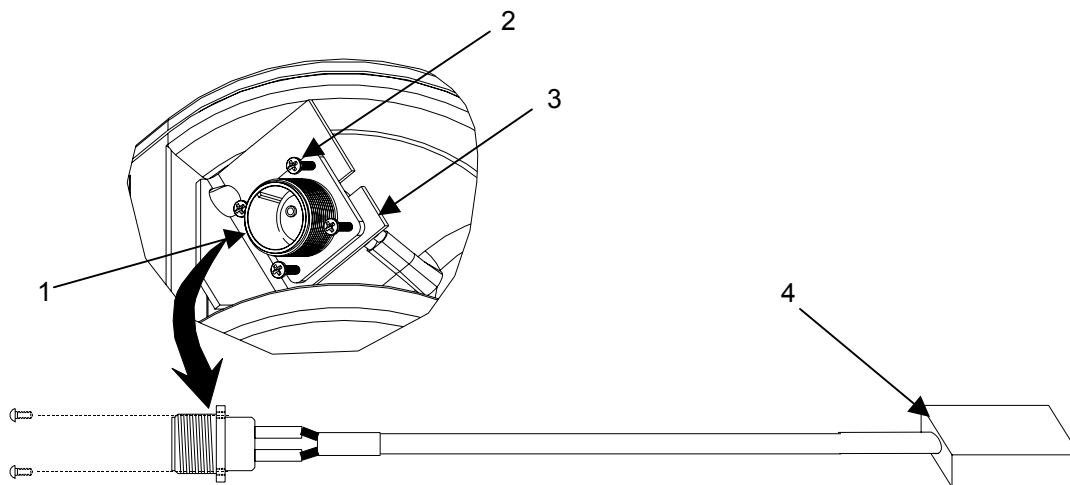

Figure 3. Replace the Electrical Connector Assembly
1. Replace the connector assembly (**figure 3, item 1**) by removing four screws (**figure 3, item 2**).
2. Slide connector assembly (**figure 3, item 1**) from bracket (**figure 3, item 3**).
3. Tag connector assembly (**figure 3, item 4**), and disconnect from harness.
4. Slide new connector assembly (**figure 3, item 1**) into place on bracket (**figure 3, item 3**), and secure with four retainer screws.
5. Connect connector assembly (**figure 3, item 4**) to harness as tagged.